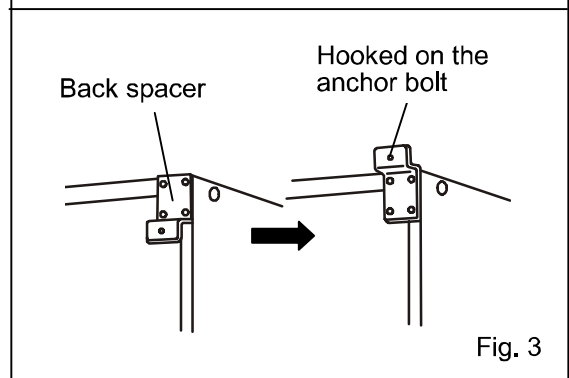

Fig. 3
2) Remove the back spacers and attach them on the back side again with upside down [Fig. 3].
3) Hook the back spacer on the anchor bolt by using the hole on the back spacer [Fig. 3].